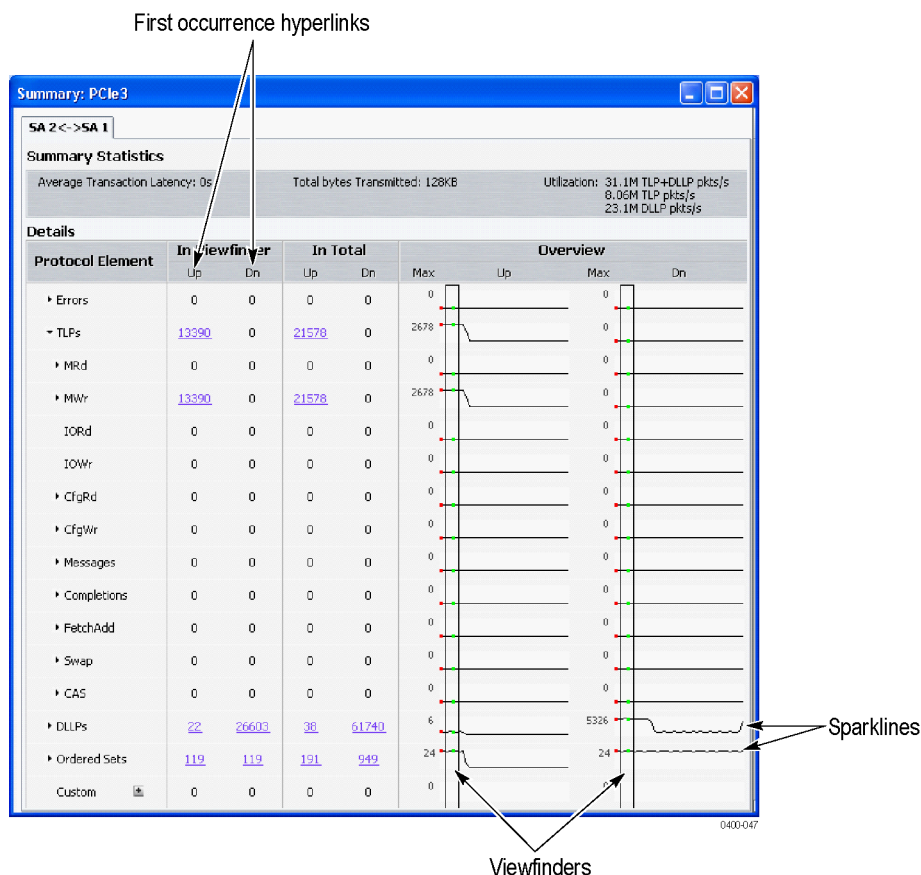

Figure 33: Summary Profile window (Summary Statistics Tab Notebook)
- **The In Viewfinder columns** list the totals of each element within the Viewfinder regions. Click an item a Viewfinder column to scroll to the first occurrence of the corresponding item in the Transaction window. (See Figure 33.)